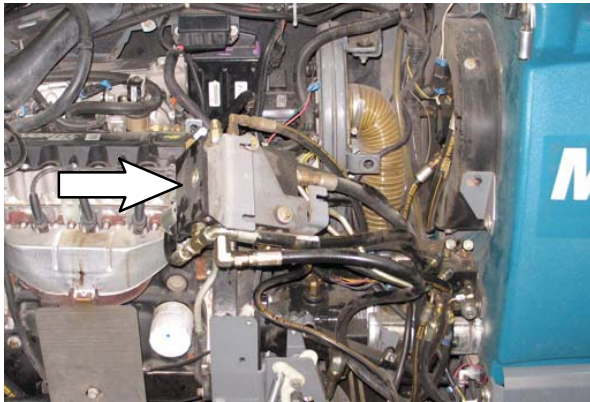

FIG. 16
23. Reinstall the scrub valve assembly onto the solution tank. (Fig. 16)